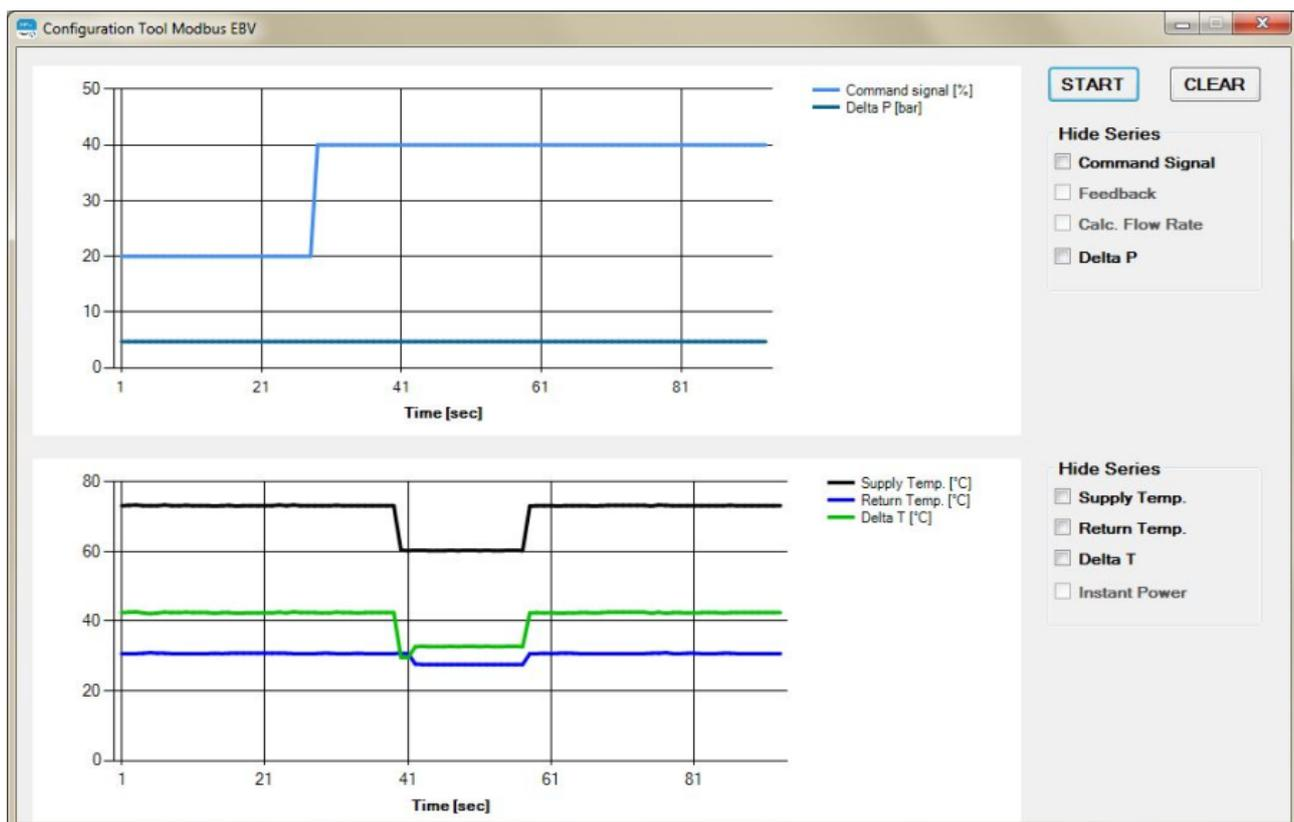

Figure 11. Window of the charts
- **CHARTS:** by checking the items listed in this section it is possible to view the graphs of the desired variables. The graphs are grouped into 2 types: the balancing ones (command signal, feedback, calculated flow rate, Delta P) and the energy ones (supply temperature, return temperature, delta T, and instant power). The latter are only enabled if the system has 2 temperature sensors, otherwise they are disabled (gray background) and cannot be selected. Pressing the "CHARTS" button a window will appear with the previously selected charts. The 2 types of variables are represented on 2 different graphic areas (see figure 11).